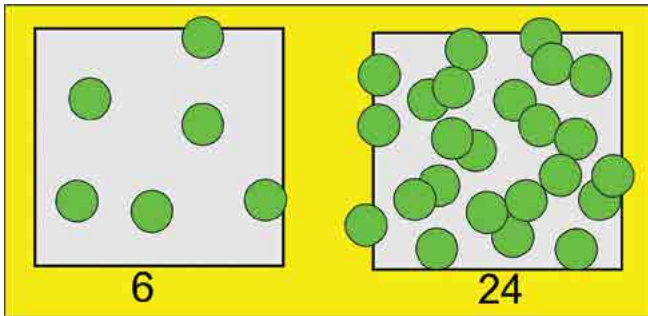

Fig.5. Model of low and medium dent coverage.
**A9:** “That is probably the biggest, most complicated, question that can be asked about shot peening. Essentially, the number of dents required depends on both the size of the component and on the average size of the dents. We use a term called “coverage” that accommodates both of these variables. Fig.5 models what we are looking for. Six dents centered in the unit square would correspond to a low coverage. Twenty-four identical dents would give medium coverage.
Next, we have to consider what percentage coverage is the most effective. We also have to ensure that we can measure coverage with reasonable accuracy. Coverage does not increase linearly with peening time. That is because the dents start to overlap more and more with increased peening. Overlapping is shown for the twenty-four dents in fig.5. The